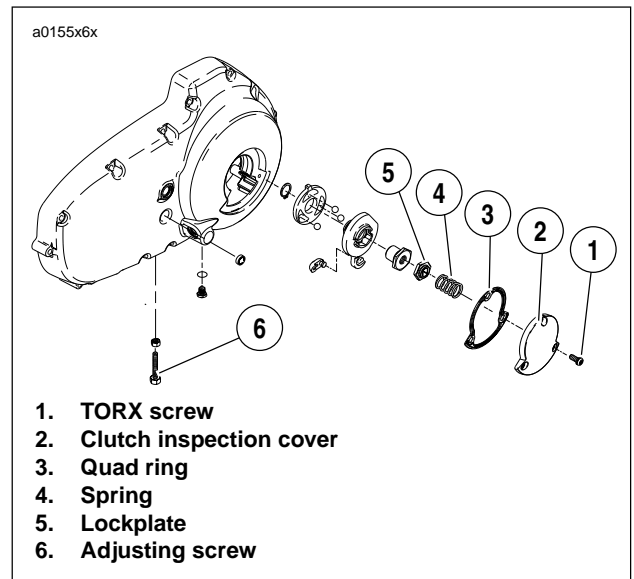

Figure 1-13. Clutch Release Mechanism
4. See Figure 1-13. Remove three TORX screws with washers (1) from clutch inspection cover (2). Remove clutch inspection cover from primary cover.
Quad ring removed from primary cover for illustrative purposes only in Figure 1-13.
10. See Figure 1-13. Install clutch inspection cover using three TORX screws with washers. Tighten in a crosswise pattern to 7-9 ft-lbs (9.5-12.2 Nm).